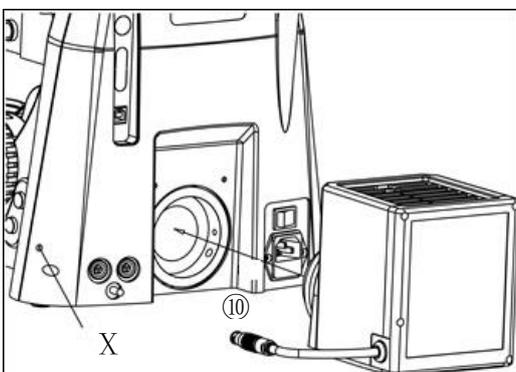

Fig.12
4-2-10 Lamp room installation (Fig.12)
Firstly, insert the light box into the back of the frame base by referring to the path of Num ⑩ marked in Figure.12.